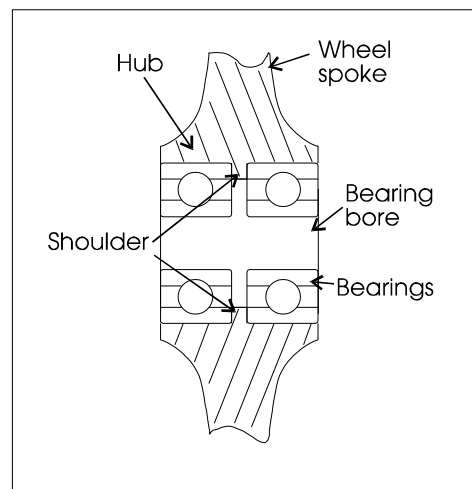

Figure 17: Idler wheel bearing configuration
7. To install new bearings use a suitable press to press them in the center of the wheel until the races are flush with the shoulder inside the wheel hub. (See *Figure 17*.)